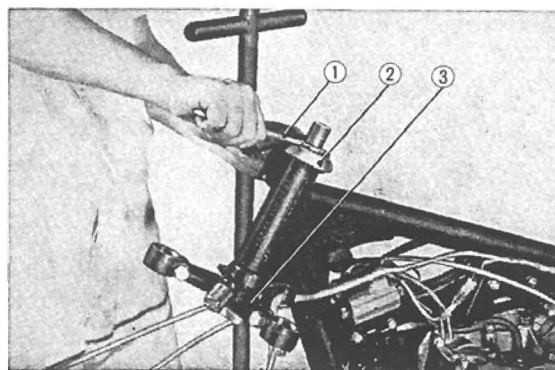

Fig. 4.26 Ressembling the steering stem
2. Mix the 1/4" steel balls (37) in grease, lay into the lower and upper ball races, and carefully insert the stem into the head pipe, exercising care not to drop the balls. Tighten the steering head top thread. (Fig. 4.26)